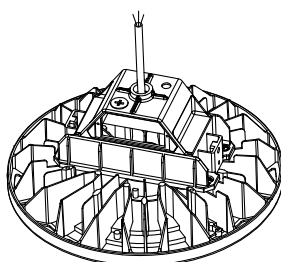

FIG. 8
3. Pull the cable from the threaded hole in middle. See Fig. 8.